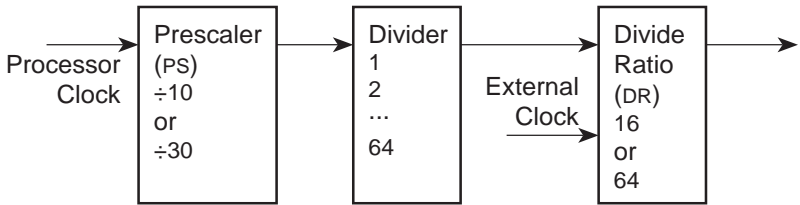

Figure 3-21. Z180 Baud-Rate Generator
The prescaler (PS), the divide ratio (DR), and the SS bits form a baud-rate generator, as shown in Figure 3-21.